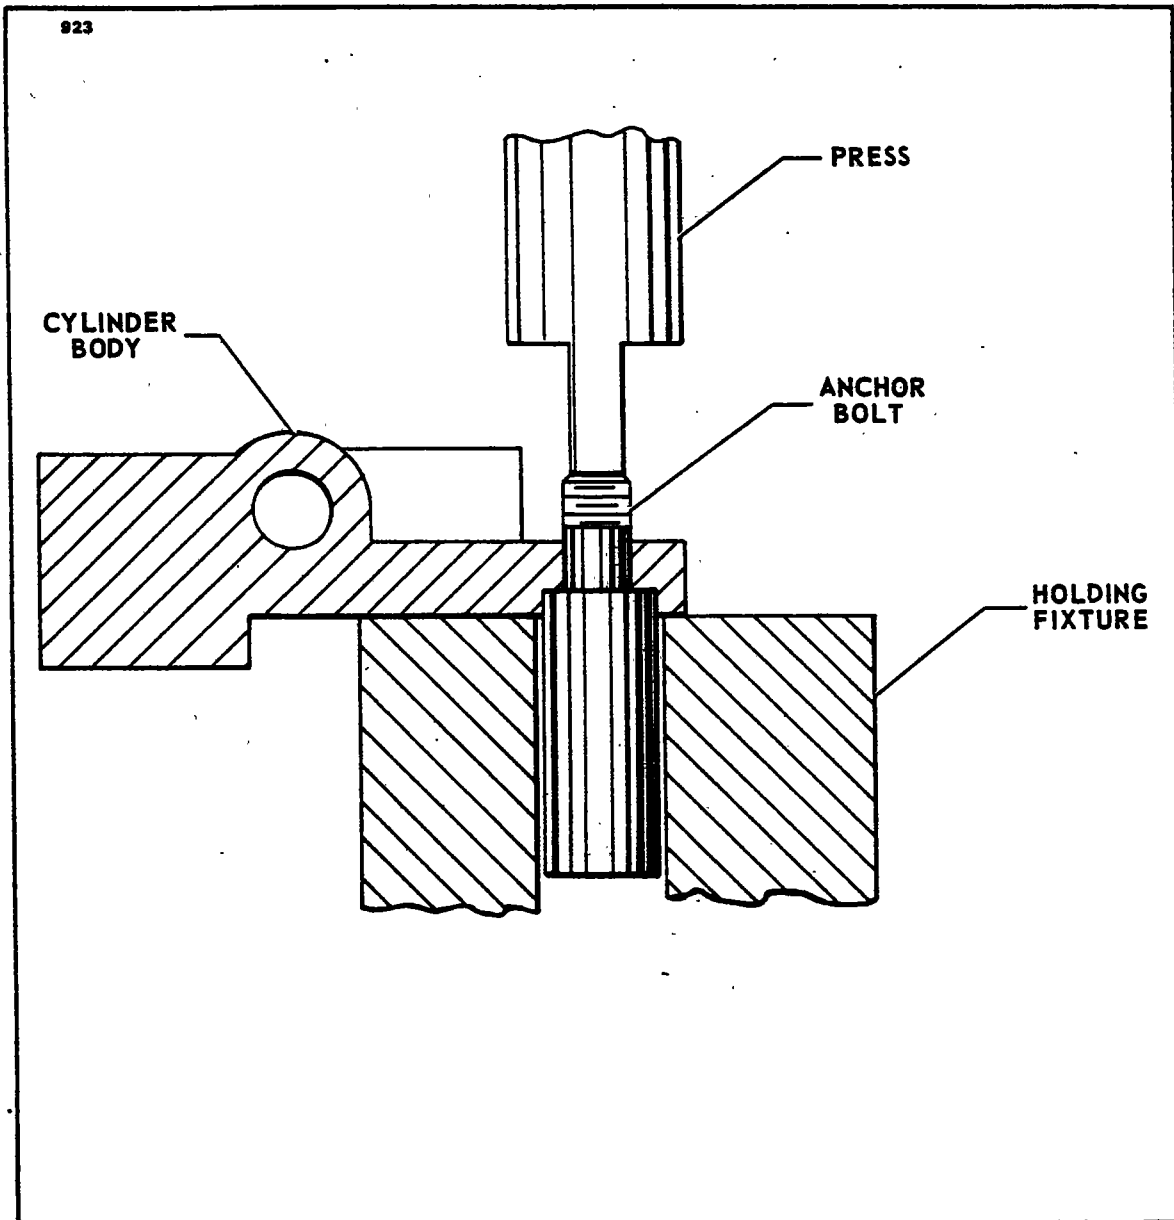

Figure 7-11. Removal of Anchor Bolt
1. Position cylinder assembly on a holding fixture. (Refer to Figure 7-11.)